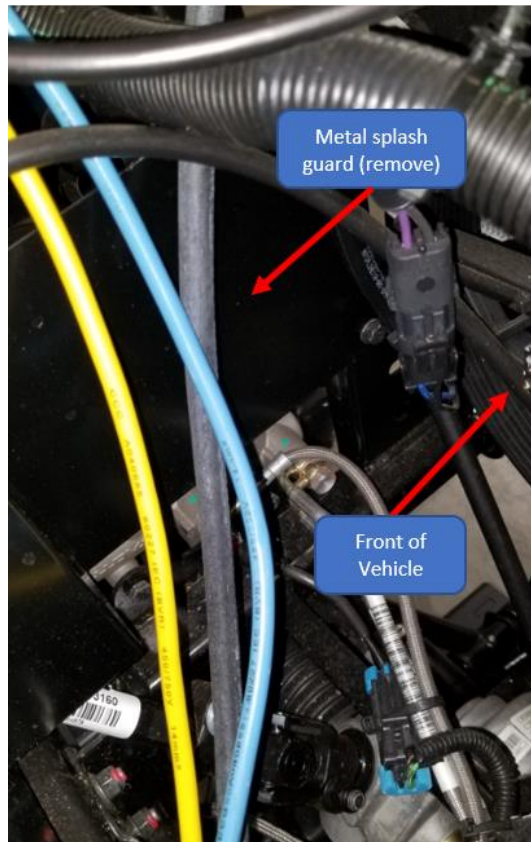

Figure 7
4. Below the metal cross bar bracket shown in Figure 6, is a thin metal splash guard bracket. The bracket is a right-angle shape with one leg running parallel to the radiator fan and the other running along the driver side wheel well. The bracket is attached with three bolts and will require some finesse to remove out the passenger side wheel well. See Figure 7.